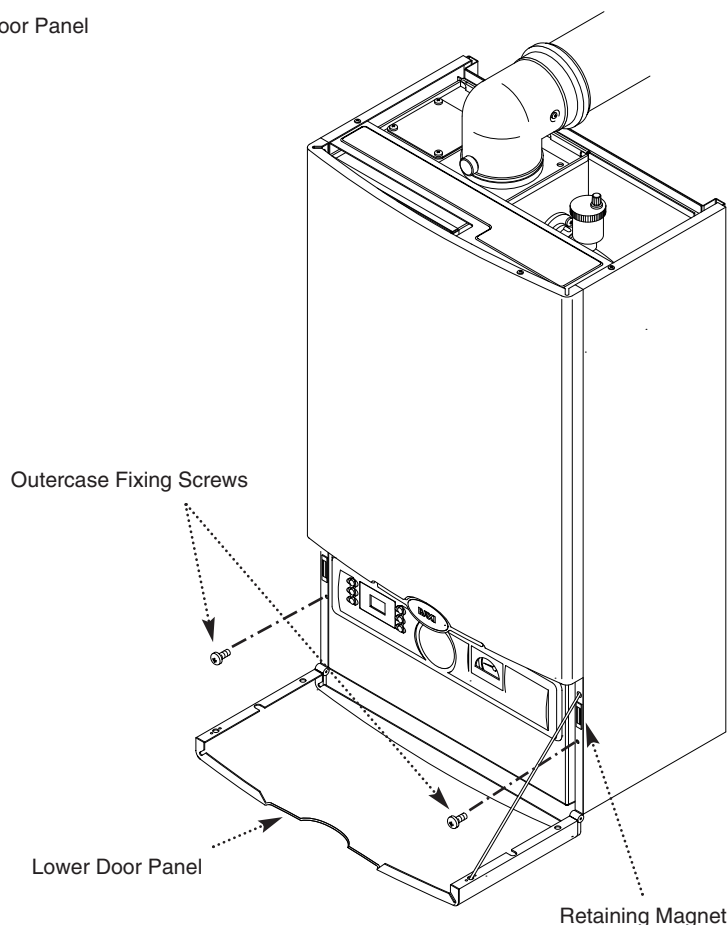

Fig. 49
2. Insert the two fixing screws into the sides of the chassis (Fig. 49).
3. Close the lower door panel against the retaining magnets (Fig. 49).